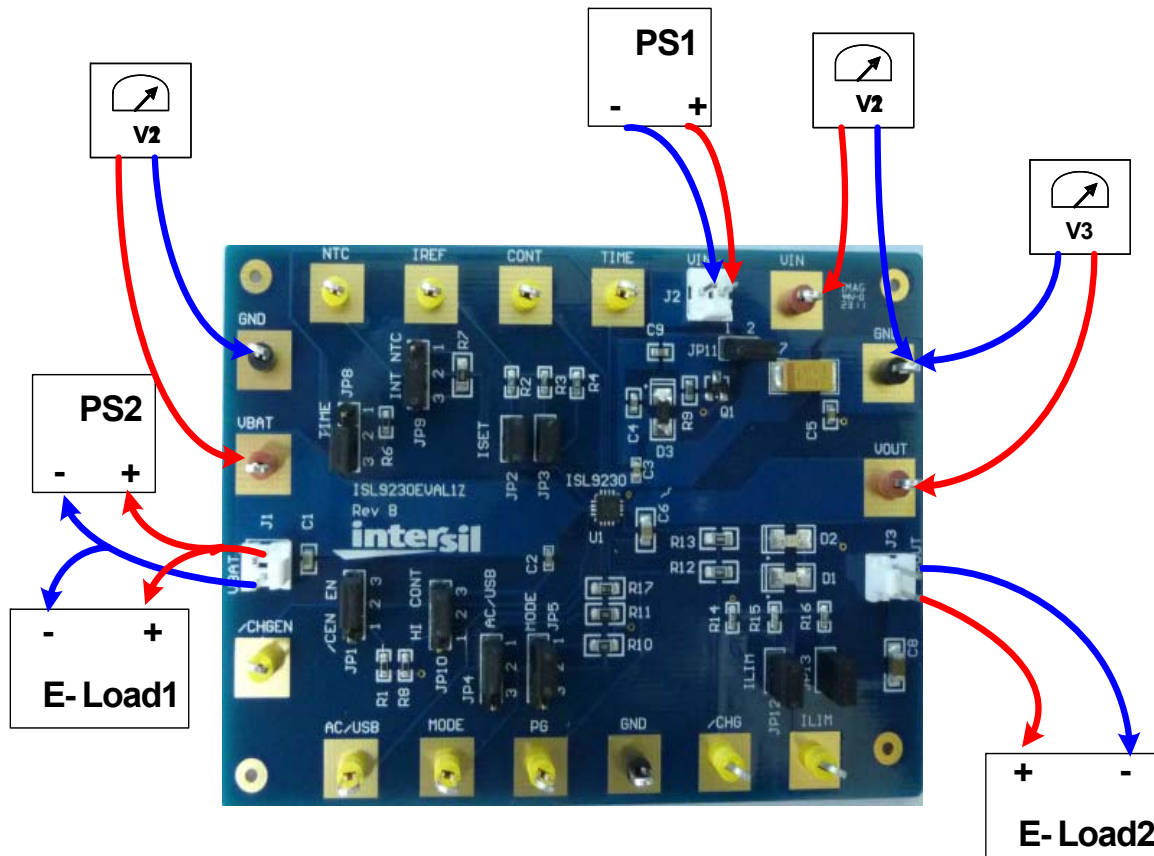

FIGURE 1. CONNECTION OF INSTRUMENTS
Quick Setup Guide (Refer to Figure 1)
- Step 1: Connect a 5V supply PS1 capable of delivering 1.5A current (see Figure 1)
- Step 2: Connect a 3.7V supply PS2 with current capability 1.5A (see Figure 1)
- Step 3: Connect voltmeters V1, V2 and V3 to monitor VIN, VBAT and VOUT (see Figure 1)
- Step 4: Connect a 2nd DC electronic load at CC mode, E-load 2 (see Figure 1)